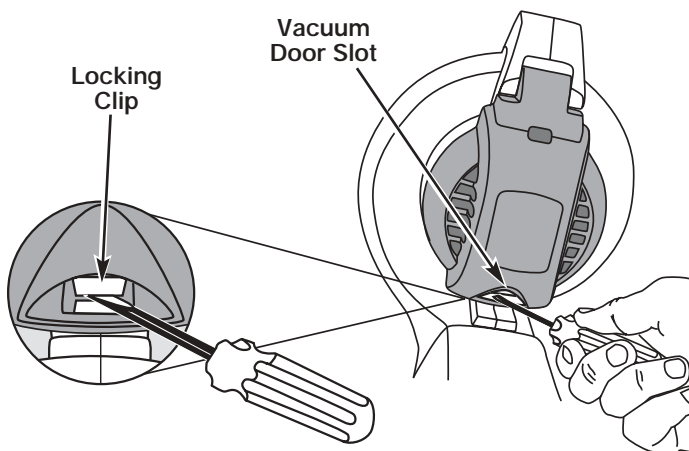

Fig. 4
4. Insert a flat head screwdriver into the slot at the lower end of the vacuum door. Make contact with the vacuum door locking clip and push inward and upwards (Fig. 4). Then pull the vacuum door and hold it open.